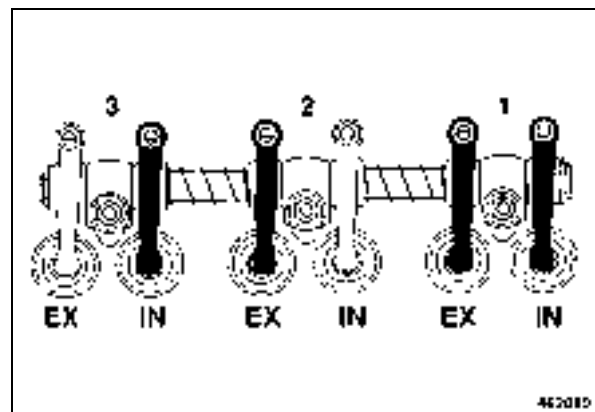

Fig. 124
- Perform the adjustment of the valve by following the adjustment diagram 2" (Fig. 124), black mark.